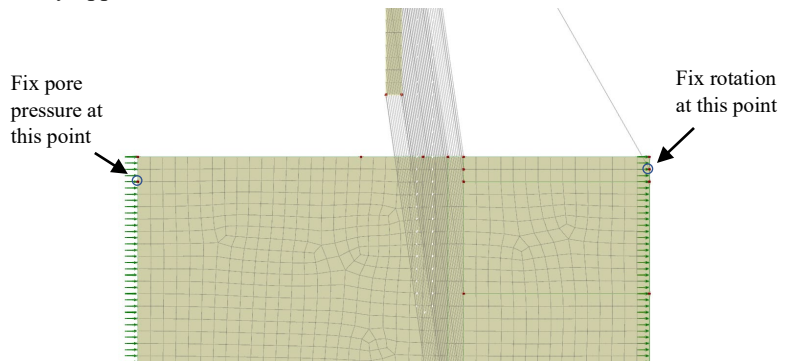

Figure 15: Apply boundary conditions at points
- The displacement restraints in the x and y directions are applied to the lines along the edge of the model. The open pore water pressure and fixed rotation boundary conditions are assigned to the points shown in figure 15. The point boundary conditions combine with the displacement boundary conditions already applied to the lines.